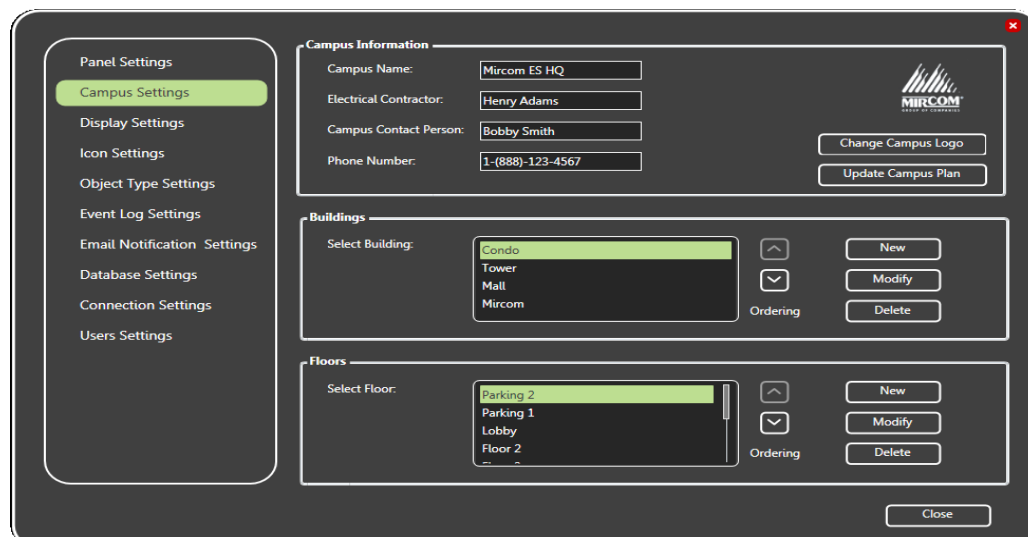

Figure 35 Campus Settings
1. Click **Update Campus Plan** in the Campus Settings window (Figure 35 on page 52).
1. Click **Change Campus Logo** in the Campus Settings window (Figure 35 on page 52).
The Campus Settings window appears (see Figure 35 on page 52).